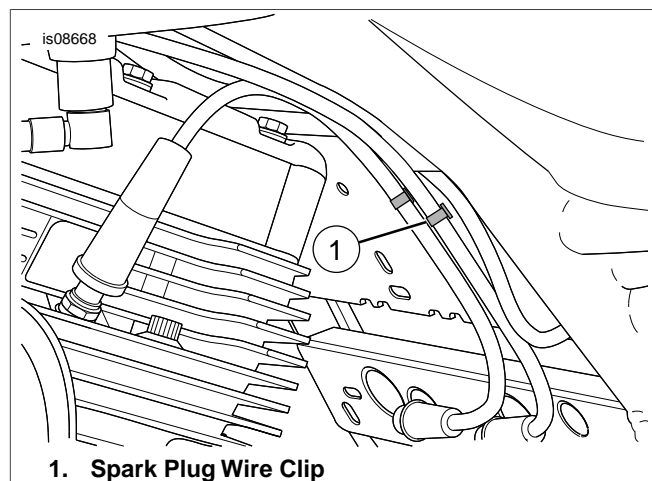

Figure 2. Spark Plug Wire Clip
4. See Figure 2. Remove spark plug wire clip (1).